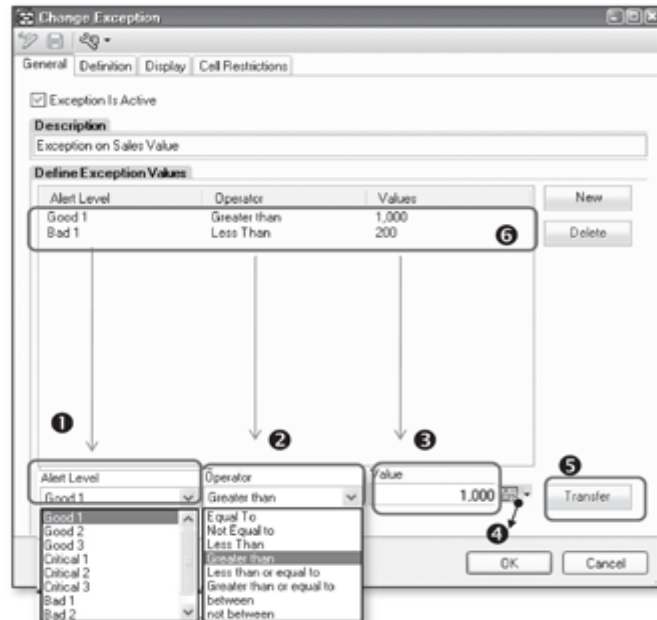

Figure 9.88 Define Exception Values
5. Define the exception values by maintaining the fields as shown in Figure 9.88. Select the Alert Level (1), for example, Good1 for Green or Bad 1 for Red. Then select the Operator from the dropdown (2) to define the exception, and then specify the threshold value in the Value field (3). You can also use a variable for the value to make the exception more flexible (4). Finally, click on the Transfer button to transfer the defined exception (5). All of the defined exceptions are visible (6).